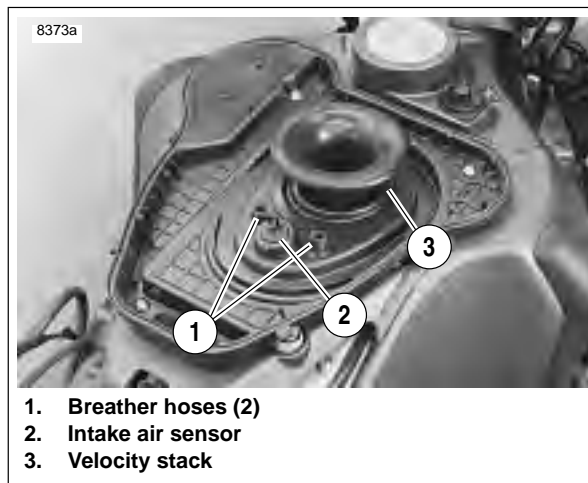

Figure 1-43. Air Cleaner Base Plate Assembly
3. See Figure 1-43. Make sure two crankcase breather hoses (1) and intake air sensor (2) are captured in base plate behind velocity stack (3).